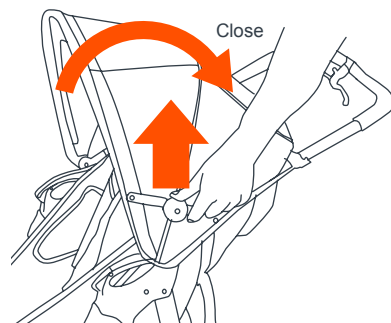

Fig. 9
- 9) • To fold the canopy:** pull upwards on the tensioners and then pull backwards on the front edge (Fig. 9).